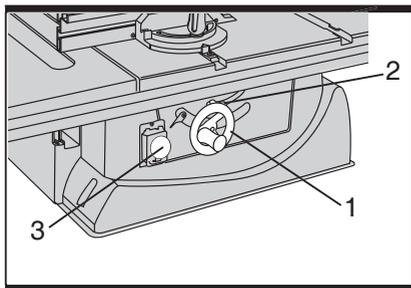

Fig 18
The main switch (3), No Volt Release (NVR) switch, is on the front of saw base. Press "I" to turn on the power; press "O" to turn off the power (See fig. 18).
Loosen the saw blade tilt lock handle (2), move the hand wheel until the saw blade is at the desired angle and tighten the saw blade tilt lock handle (See fig. 18).